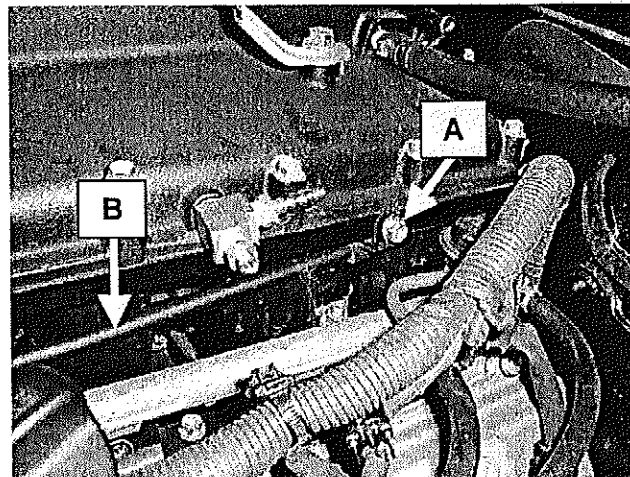

Figure 13
20. On the driver's side of the supercharger, refer to Figure 13 and perform the following: